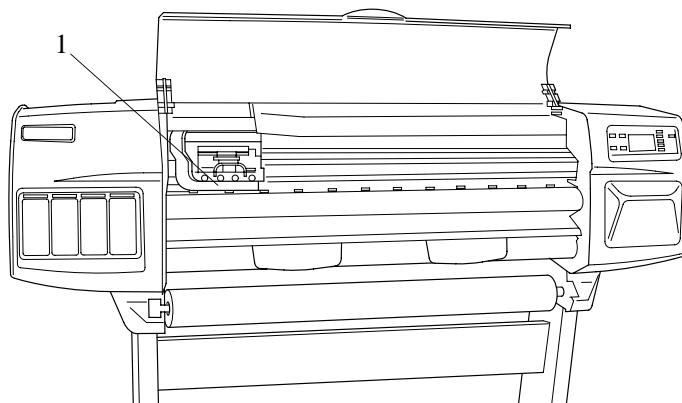

Figure 53: Printhead Tube Connector
2. Move the carriage to a position where you can access the printhead tube connector (Refer to Figure 53).